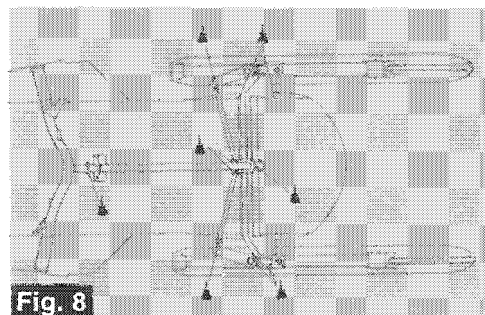

Fig. 8
With cab tilted, oil both ends of the tie-rods and (2) steering bushings. (See Fig. 8). Using Ski-Doo oil or light machine oil, (sewing machine oil), lubricate the ski legs, allowing oil to run in.